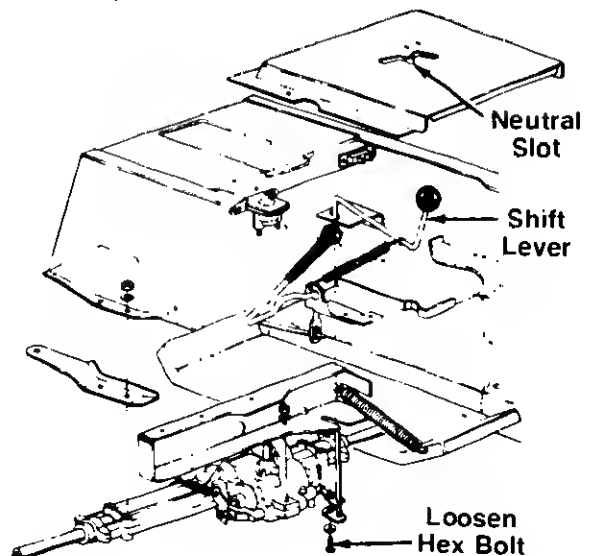

FIGURE 21.
2. Loosen the bolt which secures the shift lever assembly to the shift lever link. See figure 21.
3. Place the shift lever in the neutral slot. See figure 21.